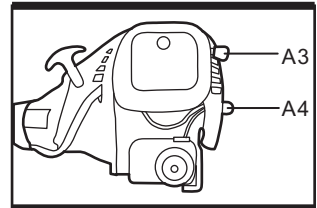

Fig. 13c
- c). If the engine is cold, move the choke lever (A3) to the "CLOSE" position  and depress the primer (A4) with 6 times until fuel is visible. (See Fig. 13c)